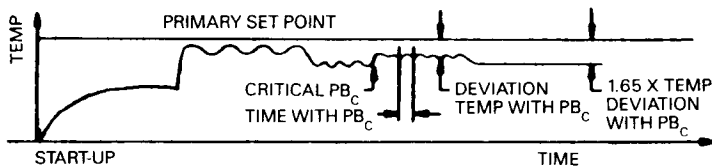
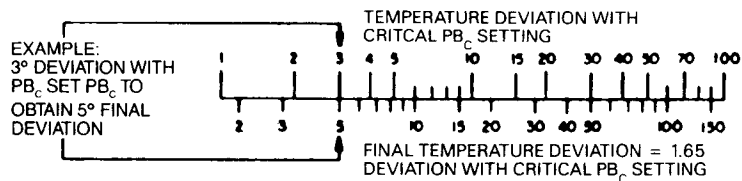

Figure 4-7. Calculating Final Temperature Deviation
Figure 4-8. Nomogram I
The desired final temperature deviation can be calculated by multiplying the initial temperature deviation achieved with the critical PB setting by 1.65 (see Figure 4-7) or by use of the convenient Nomogram I (see Figure 4-8). Try several trial-and-error settings of the PB control until the desired final temperature deviation is achieved.
2. Increase the PB setting until the process deviation (droop) increases 65%. Nomogram I (see Figure 4-8) provides a convenient method of calculating the desired final process deviation.